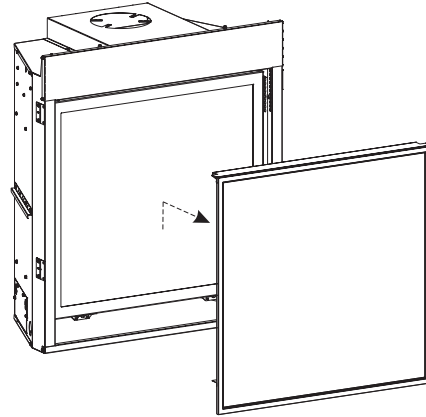

Figure 4
1. Turn off power and gas. Lift barrier screen and pull away from the unit. **See Figure 4.**
23. Replace barrier screen removed in step 1. **See Figure 4.**